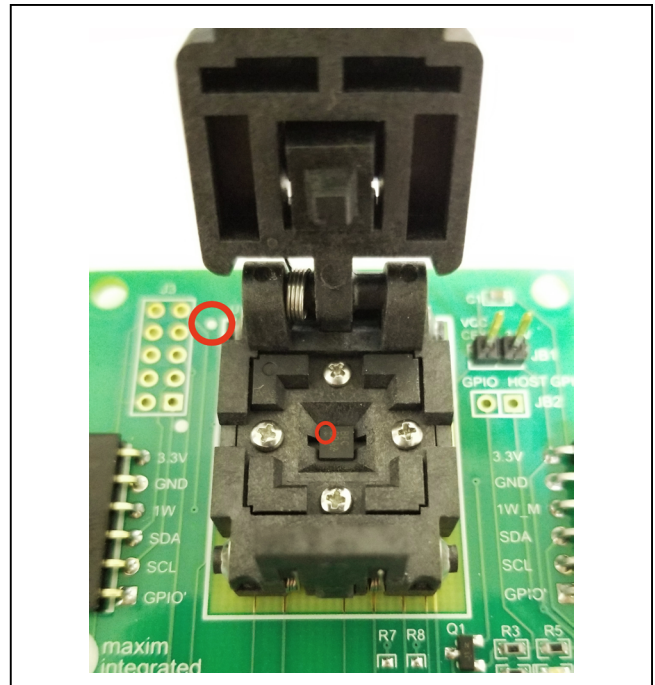

Figure 6. Orientation of the DS28C40 in Burn-in Socket
- a) Open socket and insert a DS28C40ATB/VY+ as shown in Figure 6. **Note:** The plus (+) on the package must be aligned with the pin 1 marker in the socket. Pin 1 is also marked on the PCB as a white dot located on the top side of the socket's marking.